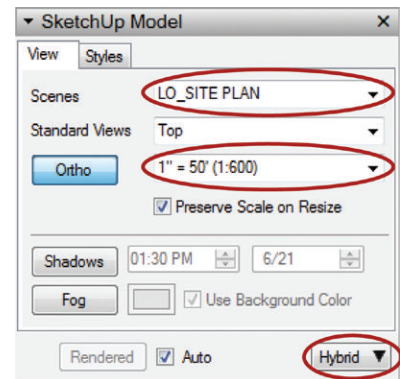

Figure 15.27 The SketchUp Model settings indicate the scene, scale, and render settings.
4. The BIC_Winter Park Site.skp file in the new viewport will be set to Last Saved View. With the viewport selected, assign the SITE PLAN scene in the SketchUp Model Inspector. Set the viewport to render as Hybrid so both the raster imagery and the vector linework will show. Set the viewport scale to 1" = 50' (Figure 15.27).